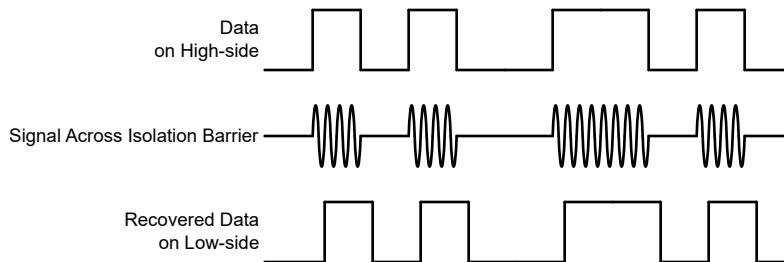

Figure 7-4. OOK-Based Modulation Scheme
The AMC23C12 uses an on-off keying (OOK) modulation scheme, as shown in Figure 7-4, to transmit the comparator output states across the SiO₂-based isolation barrier. The transmit driver (TX) shown in the Functional Block Diagram transmits an internally-generated, high-frequency carrier across the isolation barrier to represent a digital *one* and does not send a signal to represent a digital *zero*.